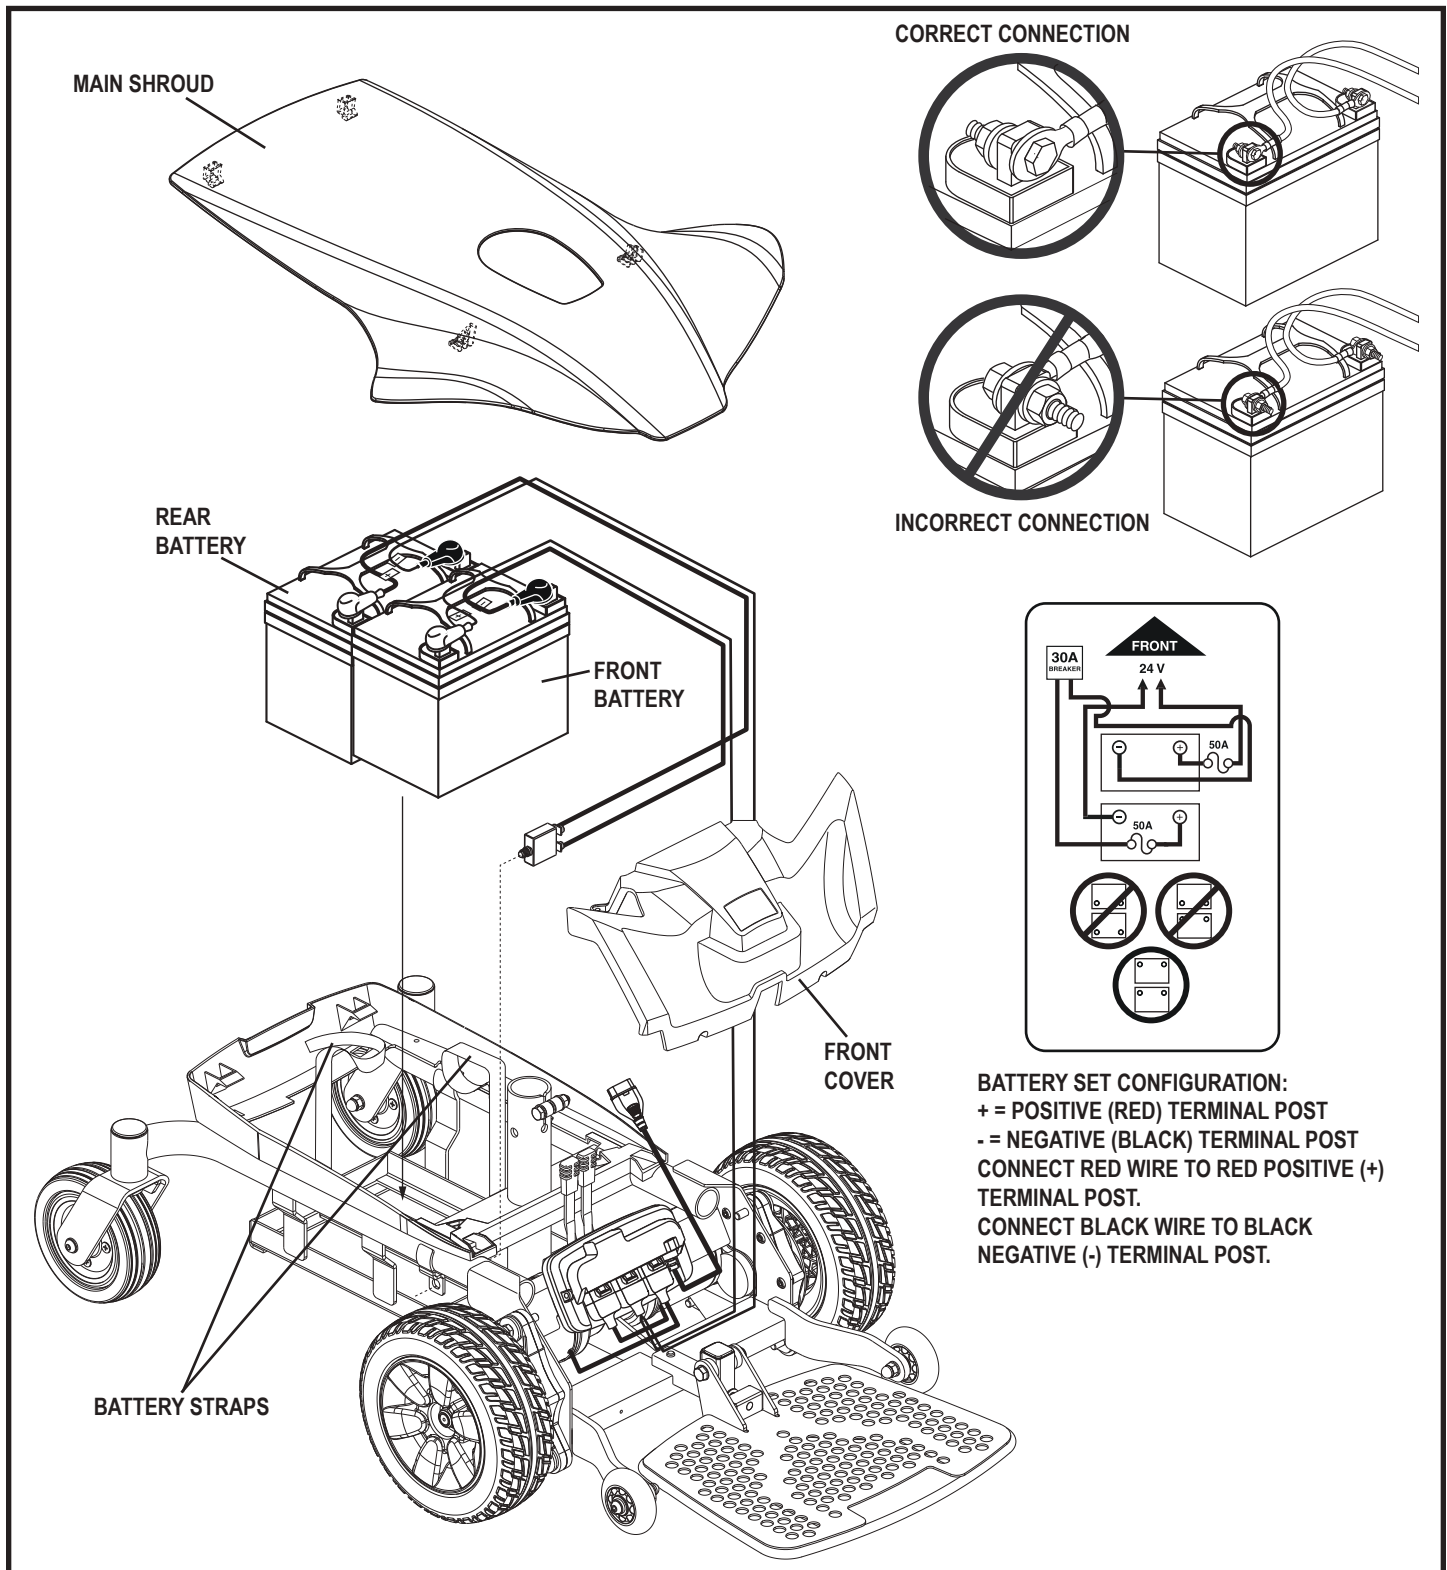

Figure 21. Battery Installation for Jazzy Elite ES and Jazzy Elite ES-1 (Seat Removed for Clarity)
4. Remove the main shroud by lifting the rear of the main shroud until it disconnects from the body shroud. Once disconnected from the body shroud, slide the main shroud forward until the tabs are free from the body shroud. Lift the shroud up and over the seat post. **See figure 21 or 22.**
5. Unfasten the battery strap. **See figure 21 or 22.**
6. Disconnect the battery cables from the battery terminals of each battery. **See figure 21 or 22.**
8. Install new batteries into the battery tray. Make sure the terminals of each battery are facing the front of the power chair. **See figure 21 or 22.**
9. Connect the front battery cable to the front battery terminals according to the battery wiring diagram. Make sure that the battery terminal hardware is facing the correct direction. **See figure 21 or 22.**
10. Connect the rear battery cable to the rear battery terminals according to the battery wiring diagram. Make sure that the battery terminal hardware is facing the correct direction. **See figure 21 or 22.**